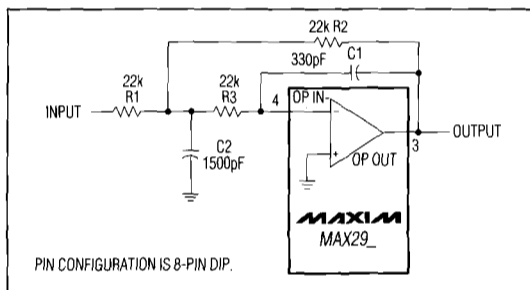

Figure 4. Uncommitted Op Amp Configured as a 2nd-Order Butterworth Lowpass Filter ($F_0 = 10\text{kHz}$)
The uncommitted op amp has its noninverting input connected to the GND pin, and can be used to build a 1st- or 2nd-order continuous-time lowpass filter. This filter is intended for anti-aliasing applications preceding the switched-capacitor filter, but it can be used as a post-filter to reduce clock noise. Figure 4 shows one of many filters that can be built with this op amp: a 2nd-order Butterworth filter with a 10kHz corner frequency and an input impedance greater than 22k Ω . Table 1 gives alternative component values for different corner frequencies of the same Butterworth filter.
Table 1. Component Values for Figure 4's Filter
As the passband ripple of the MAX293/MAX294/MAX297 elliptic filters is of the order of ± 0.1 dB, it is normally appropriate to keep the passband errors of any anti-aliasing filter at or below this level. This is achieved by choosing the corner frequency of Figure 4's Butterworth filter (f_{cB}) to be higher than the corner frequency of the elliptic switched-capacitor filter (f_{cE}) by a factor of 2.5 or more. A factor of 5 or more is recommended to avoid problems with component tolerances, i.e. $f_{cB} > (5)f_{cE}$.